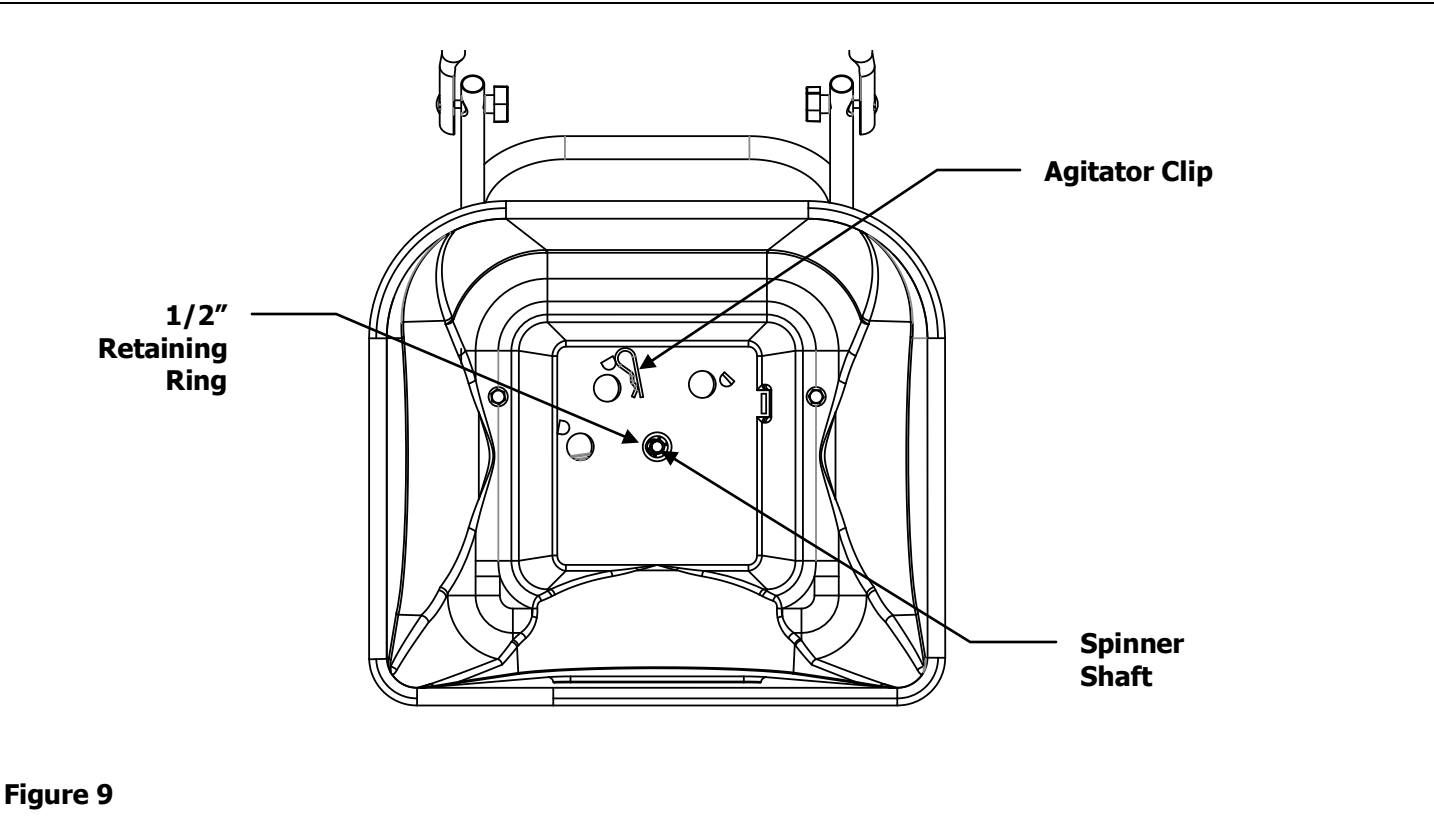

Figure 9
9. Insert the 1/2" Retaining Ring onto the Spinner Shaft. Place the Agitator Clip completely through the hole in the top of the Spinner Shaft. See Figure 9.